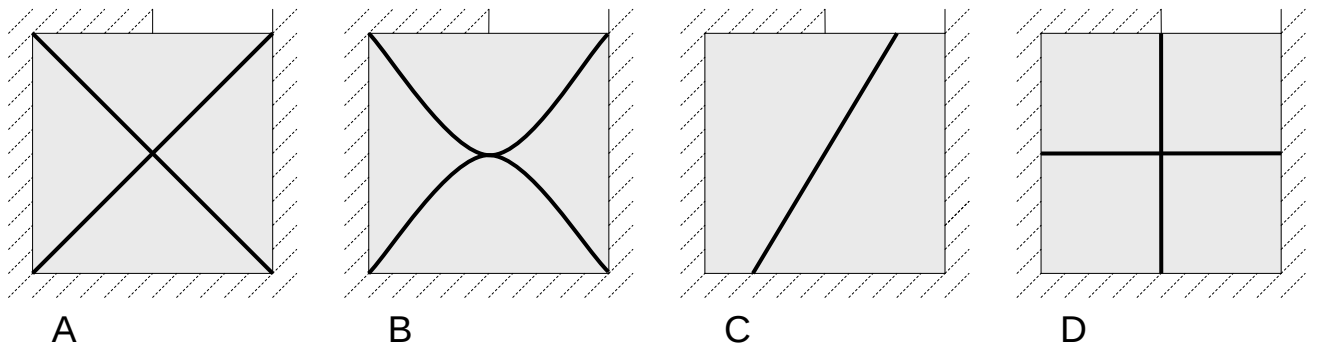

Figure 5. Yield line patterns of problem 2a
- a** Consider the yield line patterns of Figure 5. Which of these patterns give kinematically possible mechanisms. (1 point)